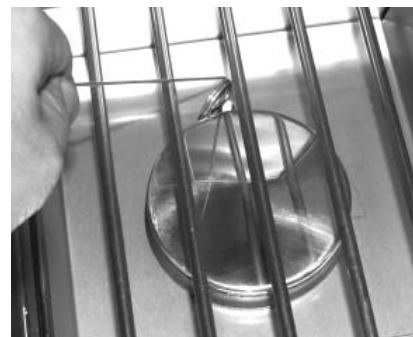

Fig. 21-2 - Manual lighting
**CAUTION:** Always wait five (5) minutes for gas to clear after any unsuccessful lighting attempt.
2. Insert either a burning long-barrel butane lighter, a burning long-stem match, or a burning match held by a wire extension holder through the cooking grid opening to the burner (Fig. 21-2). Hold the flame against the edge of the burner.
4. If the burner does not light, **immediately depress the knob and turn the valve to OFF**. **WAIT FIVE (5) MINUTES** before repeating steps 2 through 4 of the **MANUAL LIGHTING** instructions.